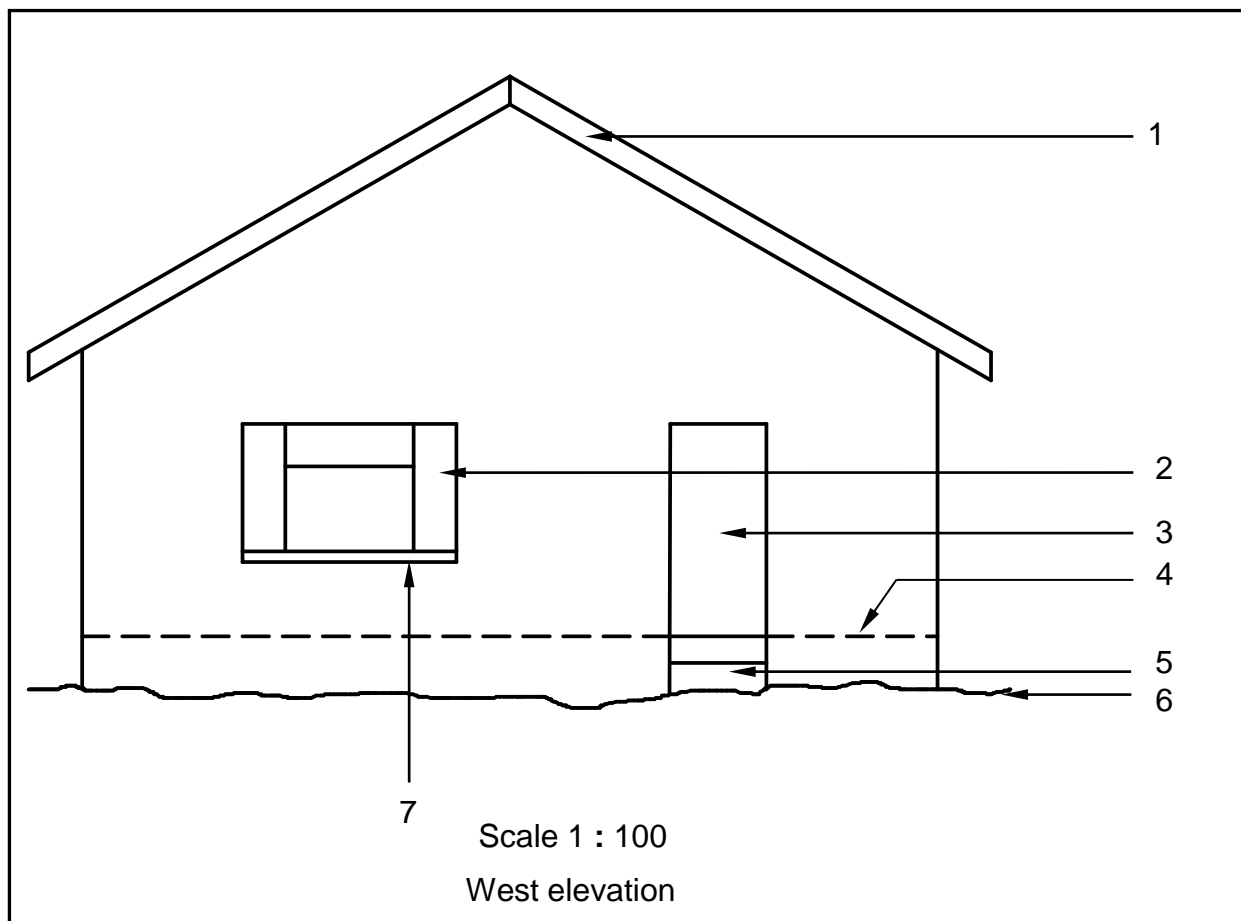

FIGURE 6.1
6.1 FIGURE 6.1 below shows the west elevation of a proposed dwelling.